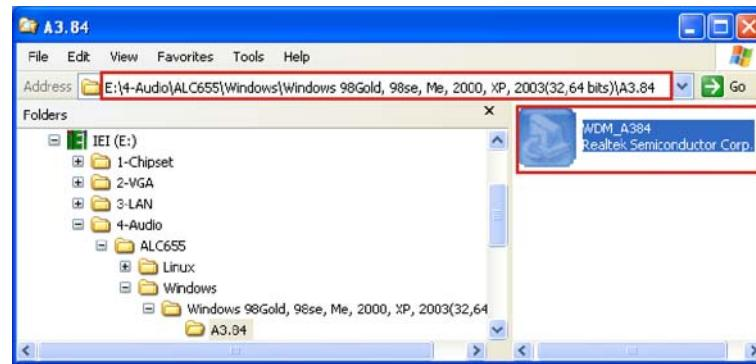

Figure 7-21: AC'97 Audio Driver Options
**Step 3:** Browse to “E:\4-Audio\ALC665\Windows\Windows 98Gold, 98se, Me, 2000, XP, 2003(32,64 bits)\A3.84” Figure 7-21
**Step 4:** Double-click the installation file in **Figure 7-21**.